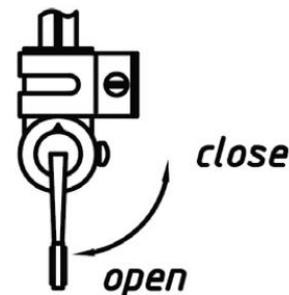

Fig 6
(2)Opening the carburetor (see Fig 6) turning the handle upright means "on", while turning it an angle of 90° means "off".